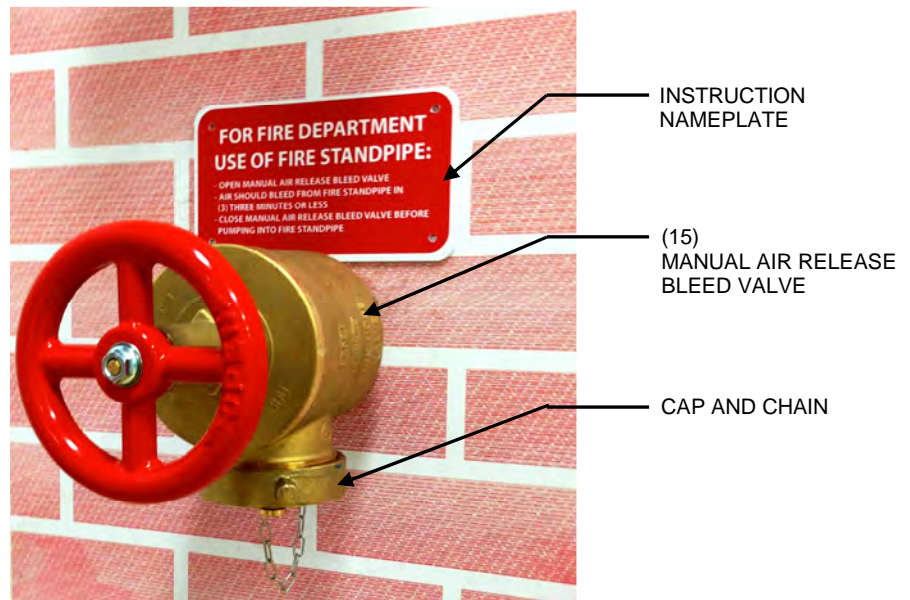

Figure 2 – Manual Air Release Bleed Valve
3.3.3. Manual Air Release Bleed Valve. See Figure 2. Locate the manual air release bleed valve on the exterior of the building in proximity to the fire department siamese connection feeding the standpipe protected by the **STANDPIPE-PAC™**. Attach the cap and chain to the valve. Secure the provided nameplate to the building or the valve so that the fire department can clearly identify the purpose of the valve and follow the instructions on the nameplate.